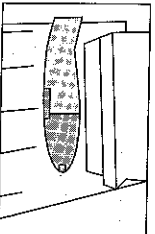

Fig. 1
1. Open cover and insert decorator strip (Figure 1)